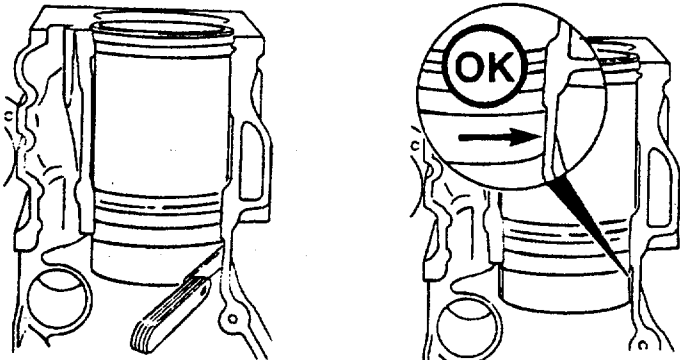

FIGURE 4-54. Liner and Lower Liner Bore Clearance.
- (g) Use a feeler gauge to measure the clearance between the liner and the lower liner bore (Figure 4-54). The clearance must be from 0.002 inch (0.05 mm) to 0.006 inch (0.15 mm).